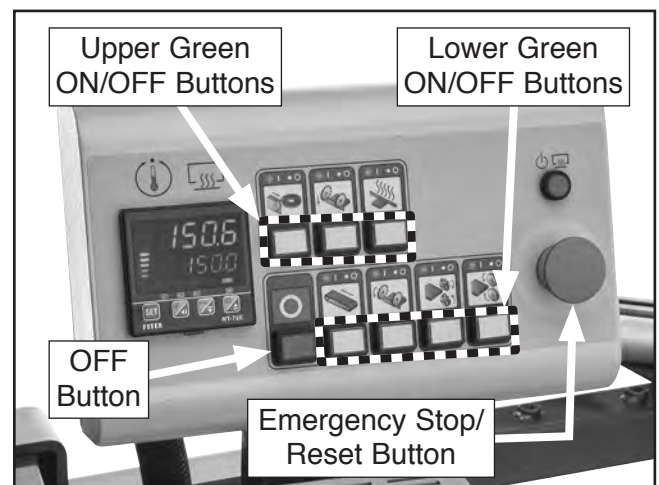

Figure 43. Upper and lower green ON/OFF buttons, OFF button, and Emergency Stop/Reset button.
14. Turn all upper and lower green ON/OFF buttons **ON** (see **Figure 43**).
15. Press OFF button (see **Figure 43** on **Page 31**). All *upper* green ON/OFF buttons should *remain illuminated*. All *lower* green ON/OFF buttons should *darken*, and the following motors should turn **OFF**.
17. Press Emergency Stop button (see **Figure 43** on **Page 31**). All upper *and* lower green ON/OFF buttons should darken, and their respective components and motors should turn **OFF**.